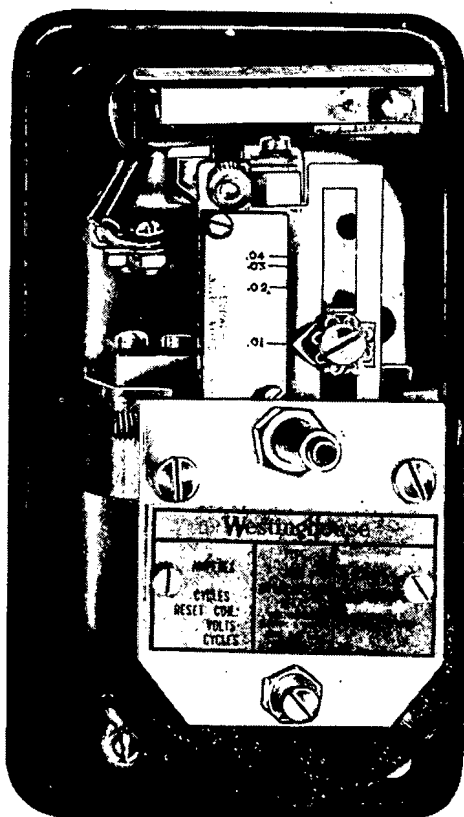

Figure 7-97. Overload Relay in Transceiver
(1) Remove the top cover from the SR Transceiver and locate the overload relay K-105. This is the glass covered relay shown in Fig. 7-97. Remove
the cover and disconnect the relay terminal that goes to capacitor C-108. Connect a d-c source of power through a potentiometer connected as a rheostat and a d-c milliammeter to the relay terminal and ground. The milliammeter should have a 250-ma scale. Adjust the current until the meter indicates 200-ma. Then loosen the screw on the pointer shown in Fig. 7-97 and adjust it to the point where the relay trips. Check the adjustment by dropping the current to 150-ma, resetting the relay, and increasing the current until the relay trips. After the relay is properly adjusted, tighten the screw on the pointer, reconnect the relay in the circuit, replace the glass cover and then replace the top cover on the Transceiver.